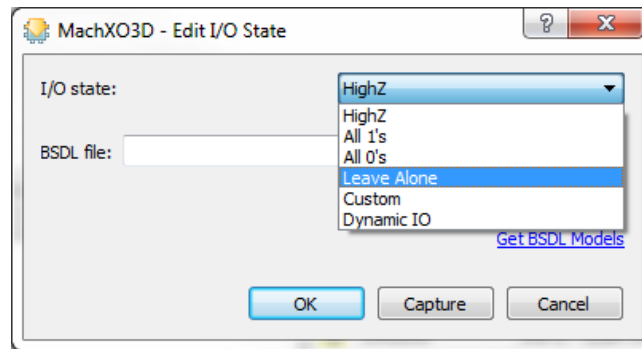

Figure 6.13. Edit I/O State Dialog Box
- In the Edit I/O State dialog box, select **Leave Alone** from the **I/O state** dropdown menu (Figure 6.13). Click **OK** to confirm this selection.